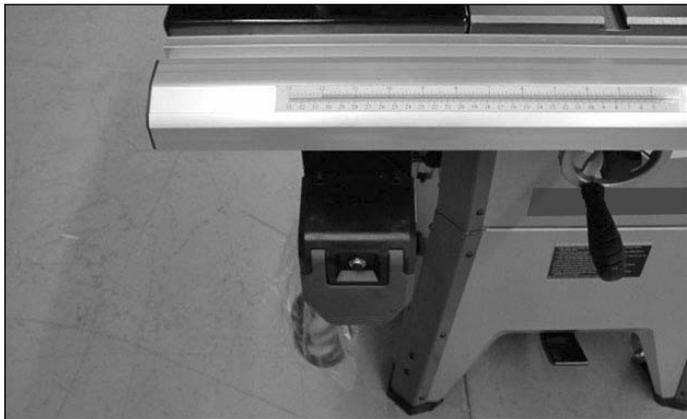

Figure 30
Refer to Figure 30.
- Slide switch assembly 150mm to 200mm from left end of rail as shown in Figure 30.